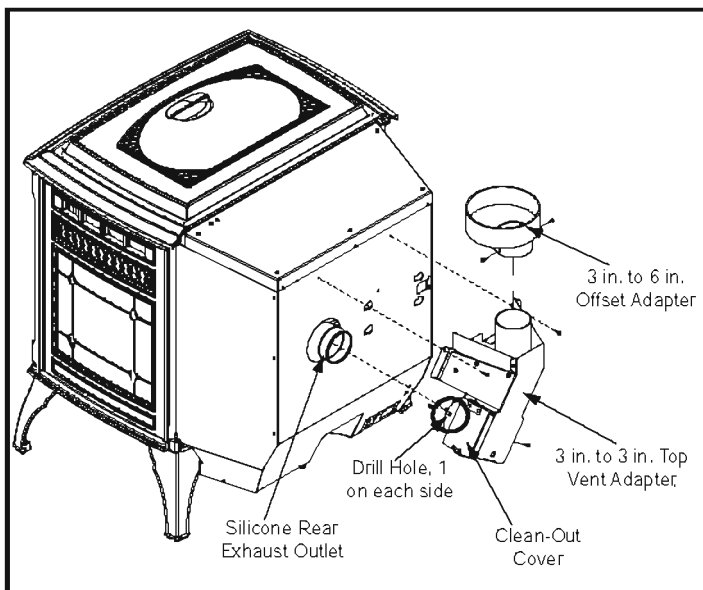

Figure 21.1
1. Put a layer of high temperature silicone on the 3 inch (76mm) exhaust outlet. **Do not put silicone inside of pipe. Figure 21.1.**
2. Slide the top vent adapter onto the rear exhaust outlet and adjust the assembly to a vertical position until the top of the flue outlet is centered and is in a level position. **Figure 21.1.**